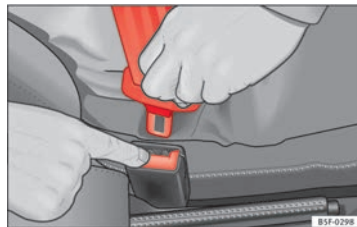

Fig. 13 Remove latch plate from buckle.
- Press the red button on the belt buckle ⇒ Fig. 13. The latch plate is released and springs out ⇒ ⚠.